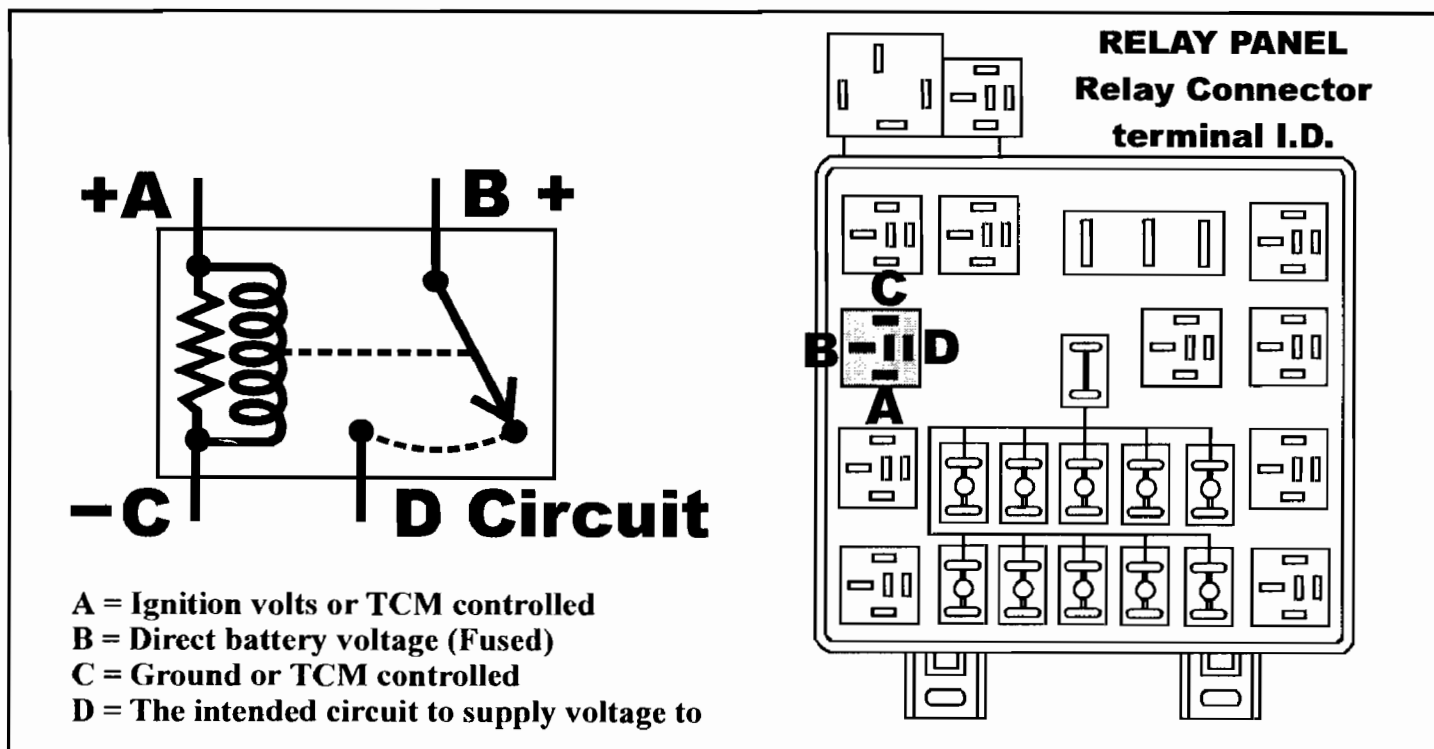

Figure 1
Relays have become more widely used in the automotive industry during these past several years. Particularly with controlling electrical circuits related to the transmission. Relays are normally open switches which close when energized. Its purpose is to isolate one part of an electrical circuit from another. Once the operation of a relay is understood, any relay can be checked with ease. Figure 1 is a wiring diagram of a typical relay. Each terminal is lettered for identification. Terminal A energizes the relay from either the ignition or from a control module. Terminal B is a fused direct battery feed terminal. Terminal C is a ground circuit going to either a direct ground or to a control module. Terminal D is the intended circuit in which the direct battery feed terminal (terminal B) will supply when the switch is closed. When terminal C is grounded and voltage is supplied to terminal A, the relay becomes energized which pull two contacts together joining terminal B to D. To check a relay for proper operation would be to supply 12 volts to terminal A, ground terminal C and check for continuity across terminals B and D with a DVOM. If terminal identification is uncertain, simply unplug the relay from the connector. Place the negative lead of a DVOM to ground with the meter set to DC volts. With the positive lead, carefully check each terminal in the connector with the ignition off (See Figure 2). The terminal in the connector that provides battery voltage would be terminal B. The terminal opposite of terminal B is D (See Figure 1). Now turn the ignition on. Recheck the remaining two unidentified terminals. The one that has voltage with the ignition on is terminal A (See Figure 3). The remaining terminal is the (C) ground terminal.